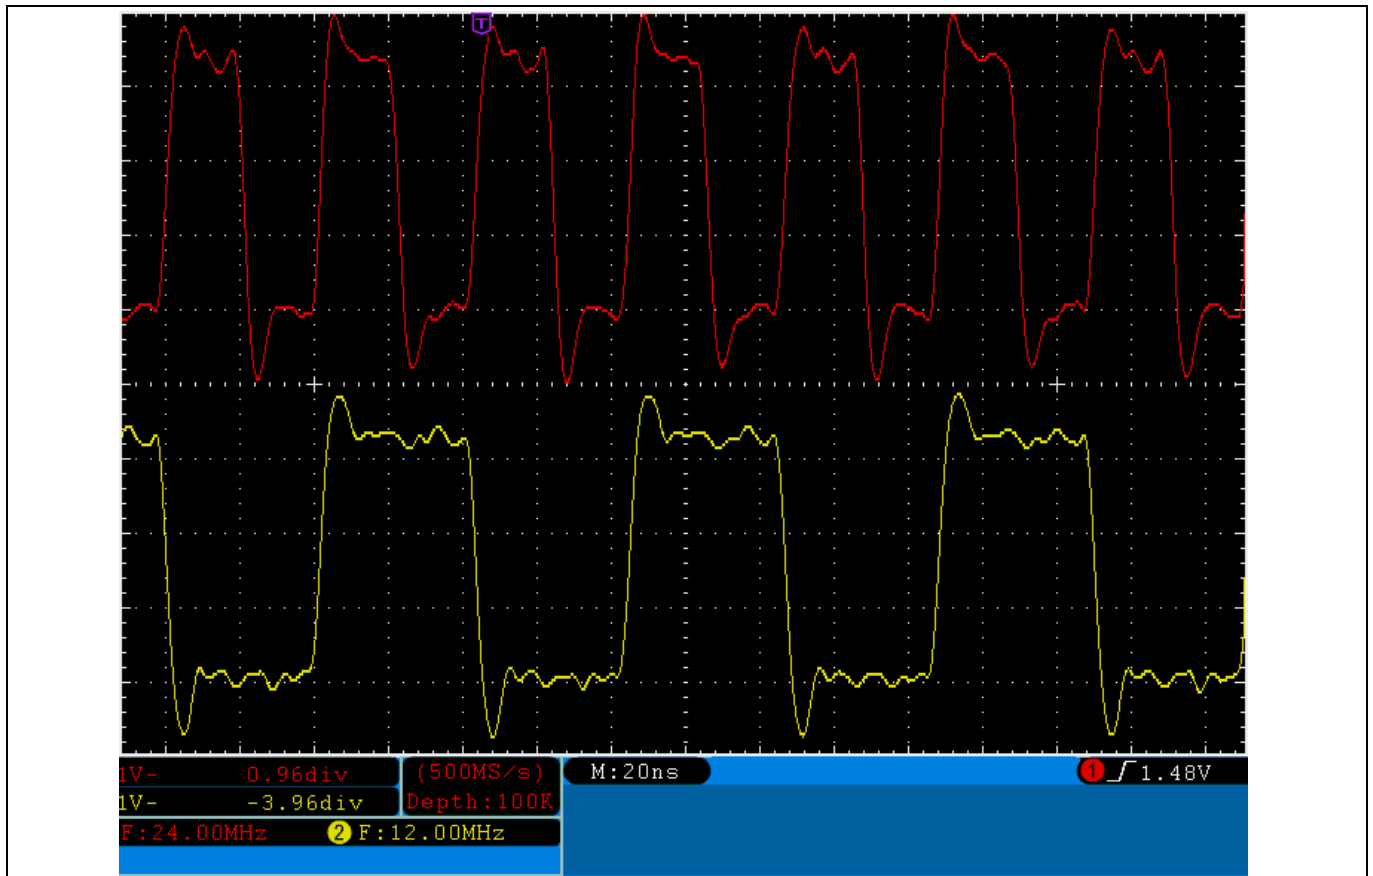

Figure 23 GPIF 48-MHz Clock Divided by 2 and 4
21. Probe P2 pin 11 (CTL0=divby2) and P2 pin 10 (CTL1=divby4). You should see waveforms similar to Figure 23.